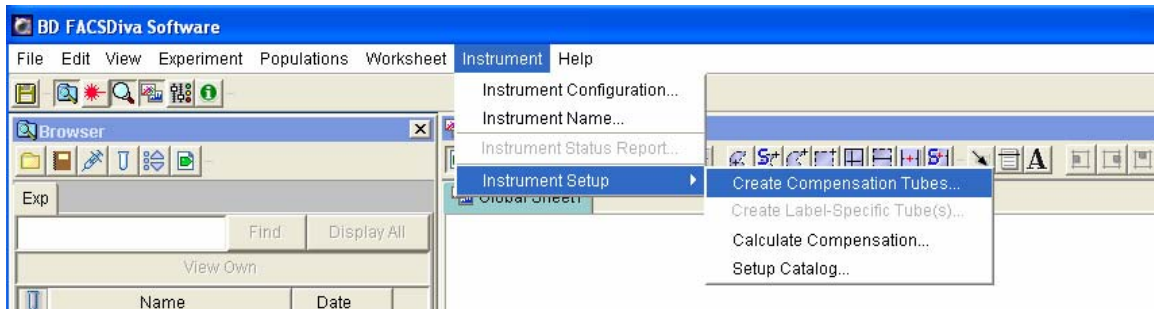

Figure 4
- Go to the Instrument Menu, select Instrument Setup, and choose ‘**Create Compensation Tubes**’. See **Figure 4**.